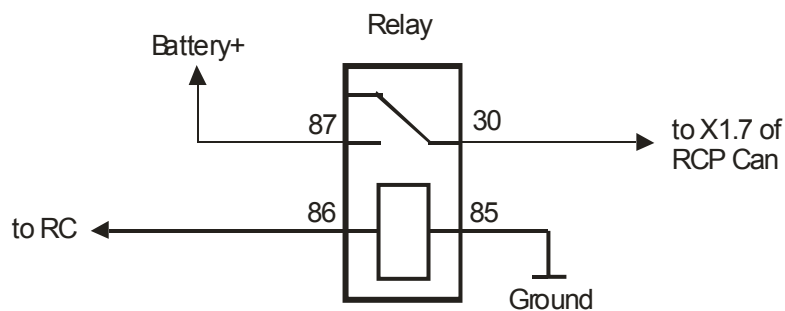

Figure 7
- The input RC_in is intended for connection of specialized remote control devices such as DEFA Smart Start, Hydronic Easy Start, Webasto Telestart. If direct connection of RC's output control line to the RCP's input line RC_in is not functional, try the scheme at the fig.7.